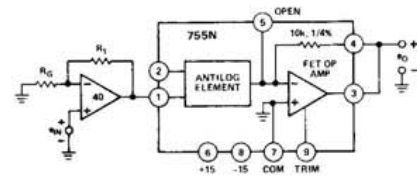

Figure 6. Method for Adjusting  $K < 2/3V$
**Scale Factor (K) Adjustment** – The scale factor may be adjusted for all values of K greater than 2/3V by the technique described in the log section. If a value of K, less than 2/3V is desired for a given application, an external op amp would be required as shown in Figure 6. The ratio of the two resistors approximately: